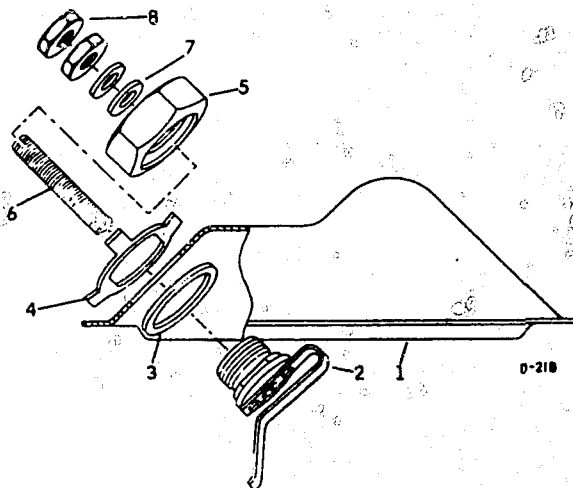

FIGURE 1
A circuit switch assembled into the GVB/D Governor Top Cover (See Figure 1), when closed, energizes the solenoid control valve in the "Dynatard Brake System" of the engine. The circuit is closed when the governor fulcrum lever moving into high speed shut off or zero fuel position comes in contact with the flat spring of the switch adapter (2).
- Assemble brake switch parts as shown in Figure 1, making sure the flat spring on the adapter assembly (2) is assembled with long end down. Make sure tab on washer (4) is bent against flat on nut (5).
- Adjusting screw (6) must be turned out so that it "Does Not" touch the flat spring.